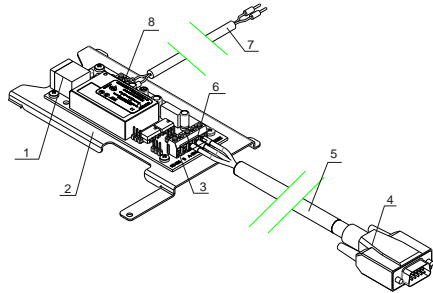

Fig.1
- 1.1.2. Power supply the module (pos.8, fig.1)
2.1.3. Power supply the module (pos.8, fig.1)
Before the assemblage, it is necessary to dismount the the board of the module from its base (fig.1, pos.2).